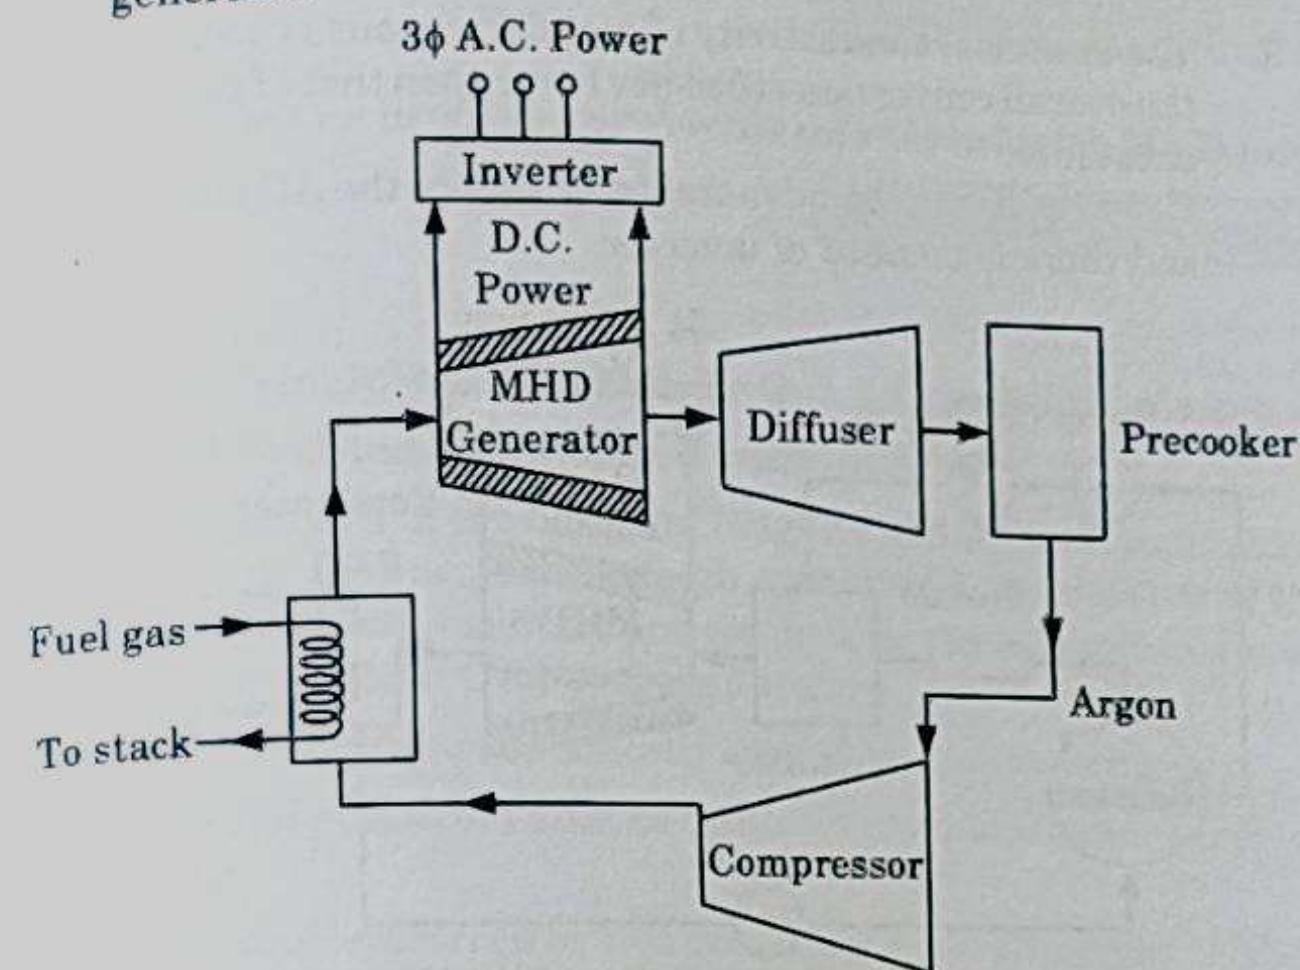

Fig. 3.8.2. Closed cycle MHD generator.
- Fig. 3.8.2 shows the schematic diagram of closed cycle MHD generator.